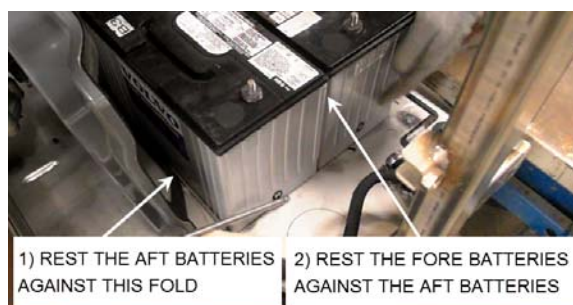

FIGURE 38: PROPER POSITIONING OF THE BATTERIES
1. To respect battery polarity in the arrangement, positive (+) and negative (-) signs are laser cut on the battery deck steel sheet. When installing the batteries, place the battery negative and positive poles according to the signs on the battery deck (FIGURE 38).